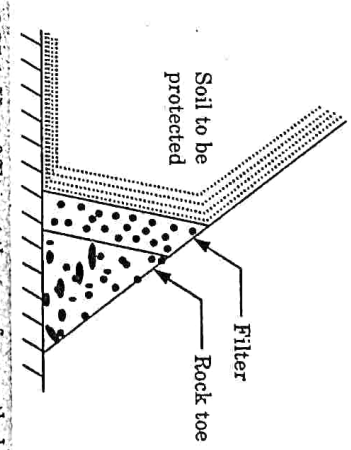

Fig. 2.25.1. Use of filter at the toe of an earth dam.
4. For example, consider the earth dam section shown in Fig. 2.25.1. If rock fills were only used at the toe of the dam, the seepage water would wash the fine soil grains into the toe and undermine the structure. Hence, for the safety of the structure, a filter should be placed between the fine soil and the rock toe as shown in Fig. 2.25.1.